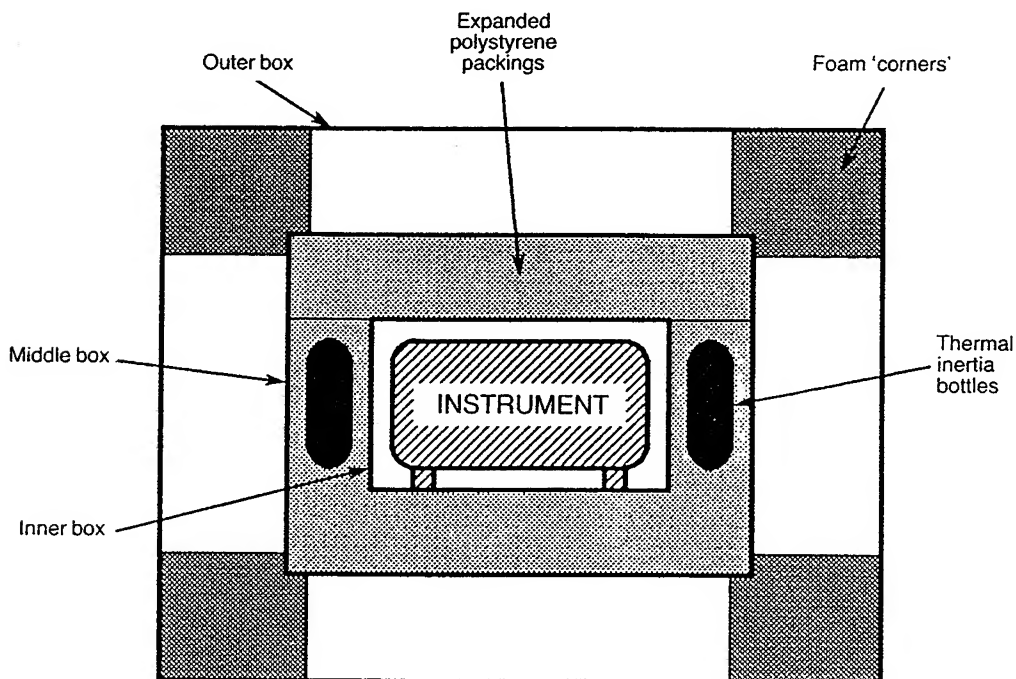

Fig 2.1 Instrument packaged for shipment (side view)
1. Unpack the instrument, but leave the middle box located within the outer box by the foam 'corners' (Fig. 2.1)